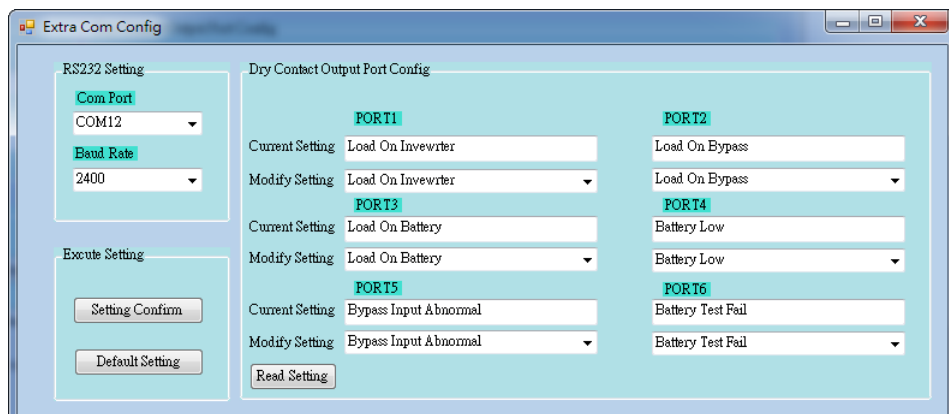

Figure 5-6
Step 2: Start Extra Com Config software tool in your computer. Then, it will pop up a screen as Figure 5-6.